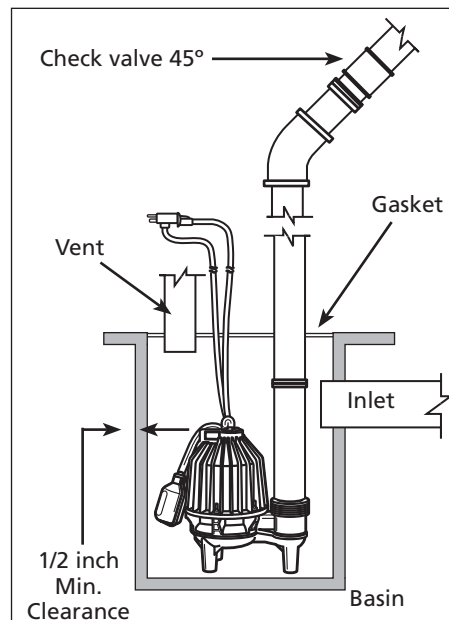

Figure 3 - Prefabricated Basins
6. The pump has a detachable tether switch with a piggyback plug (see Figure 3). The length of the tether (distance of cord from float to clamp) should not be set shorter than 3-1/4 inches and should not be used in a basin smaller than 14 inches in diameter. If using a differential other than the factory setting, be sure when the pump shuts off at least 4 inch of fluid is left